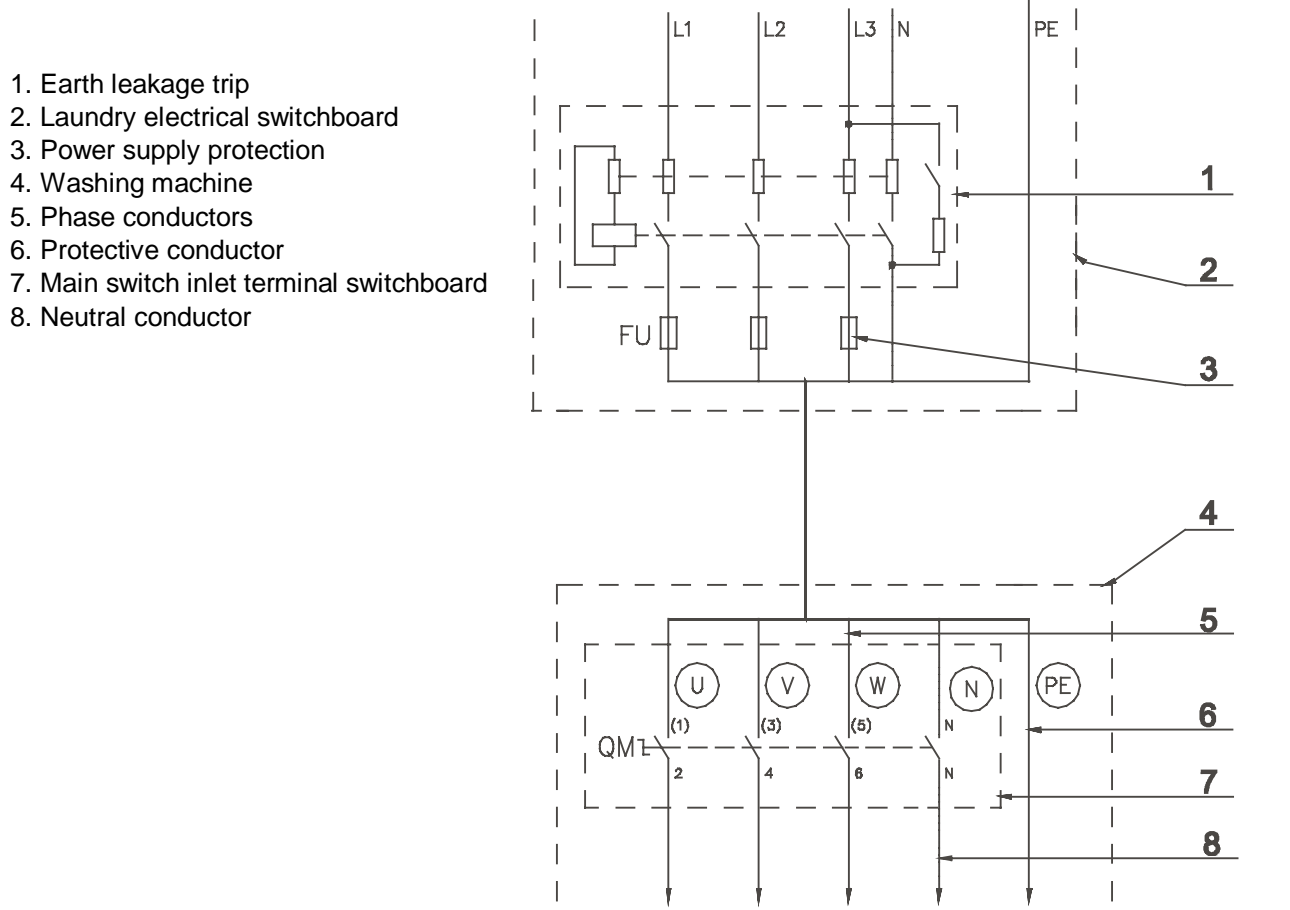

Fig.4.4.A Machine connection to electrical network (with an earth leakage trip)
The machine has been designed for connecting to the electrical network according the specification of your order. Before connection check the voltage values and the frequency stated in the machine label (fig.3.5, pos.12), if they correspond to your power network. The way of the connection is described in fig. 4.4.A. If the machine is not equipped with a main switch then supply disconnecting devices need to be provided in the installation for all electrical supplies connected to the machine, in accordance with EN 60204-1 standard, point 5.3.